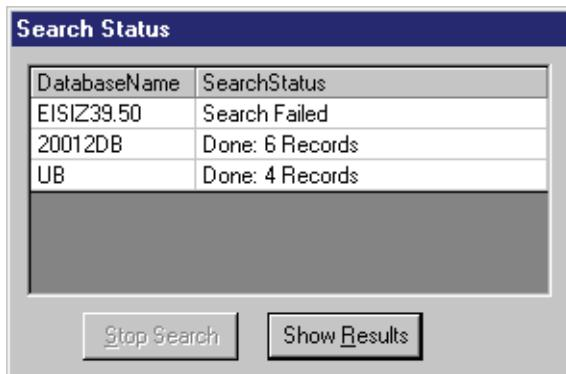

Figure 2-43. Search Status dialog box
- If you are performing a simultaneous search, the **Search Status** dialog box opens (see Figure 2-43), listing each database name and the status of each search. The **Stop Search** button displays if your search returned over 100 hits. It allows you to interrupt the search if the status is **Searching** or **Receiving**.